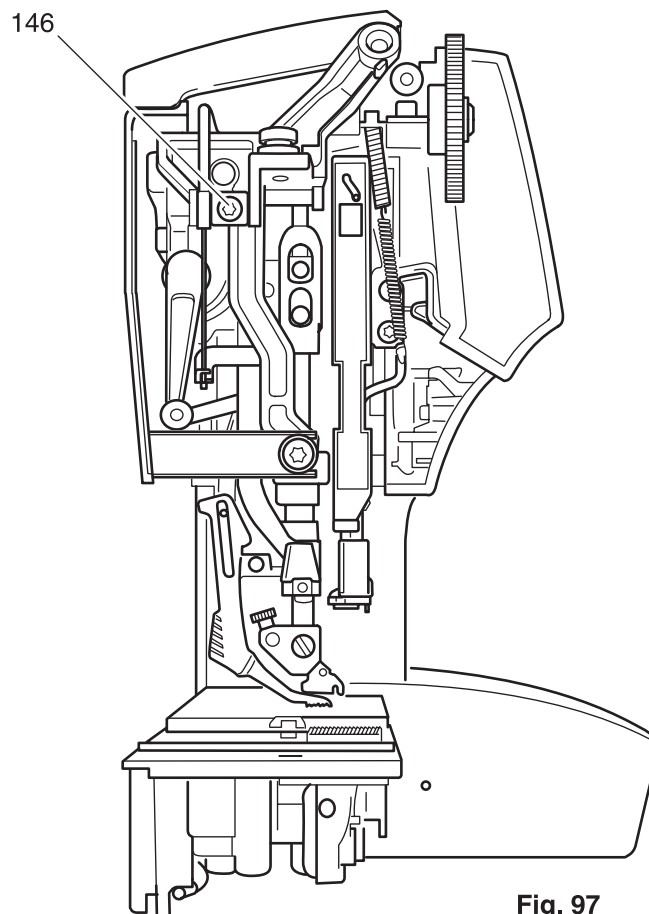

Fig. 97
- Position the Bowden cable's clamping plate and secure with screw 146 (fig. 97).